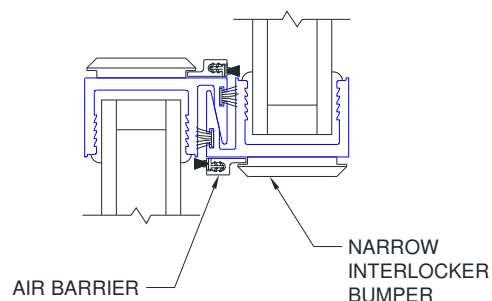

Figure B1:
1. See Figure B1 and B2 for locations where the air barrier can be placed.